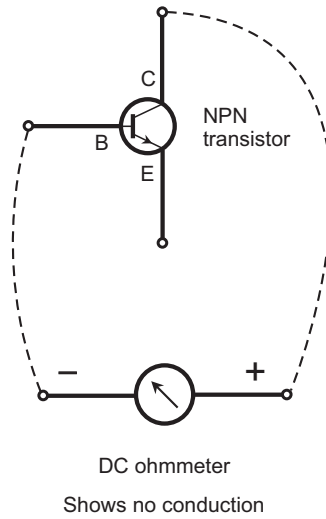

FIGURE 7-21 Electrons should not flow from the base to the collector.
4. Electrons should not flow from the base to the collector (Fig. 7-21).